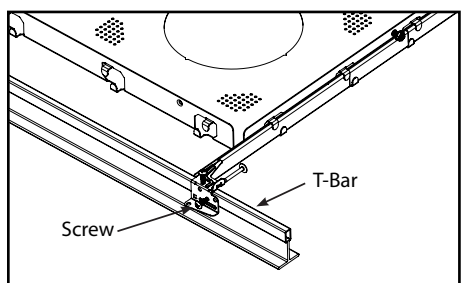

Fig. 3
3. If the bar hangers are still too long, they can be shortened without removing them from the pan. Insert a screwdriver into the C-channel half of the bar hanger and pry back and forth until it snaps off on the scored line. Then pry the end of the other half of the bar hanger back and forth until it snaps off at the designated spot (Fig. 3&4).